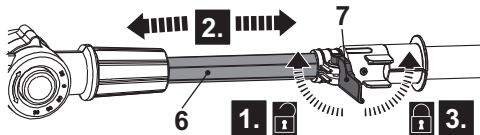

Fig. 9
- Loosen the locking lever (7) (Fig. 9, step 1).
- Adjust to the required length by pulling out or pushing in the pole extension (6) (Fig. 9, step 2).
- Secure the position of pole extension (6) by fastening the locking lever (7) back to its original position (Fig. 9, step 3).